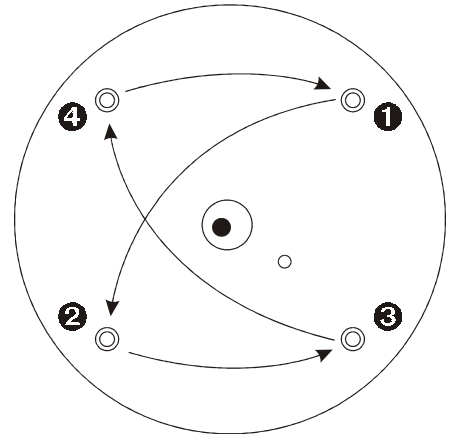
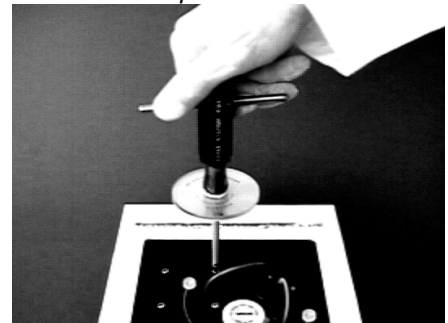

Figure 2-7 Pattern for tightening the socket-head cap screws on the sample chamber
Figure 2-8 Tightening the sample chamber screws with the AC-012 Torque Driver
- Holding the sample chamber down flat, replace the four socket-head cap screws and tighten them until the screw heads just touch the cell top. Back them off 1/8 turn. Using the torque driver (Figure 2-8), tighten each screw 1/8 turn following the pattern shown in Figure 2-7. Tighten each screw 1/8 turn following the same pattern (you should feel some resistance at this point). Make sure the driver is completely seated in the socket head screw before tightening.
Tighten the screws following the pattern shown in Figure 2-7 in stages; first tighten all the screws to level A, then B, then C, and